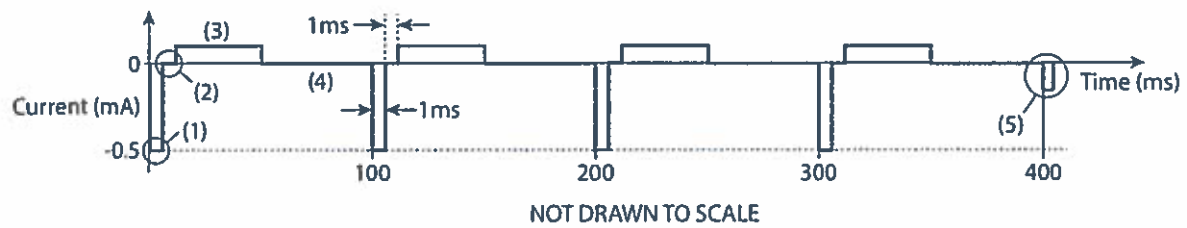

Figure 2.1
An asymmetric biphasic current waveform that is generated by an electrical stimulation circuit is shown in Figure 2.1.
- Name titles for phases (1), (2), (3), (4), and (5) as annotated in Figure 2.1, and briefly describe the purpose of each. [10]
- Given a $5\text{k}\Omega$ electrode impedance, estimate the voltage headroom that is needed to generate the stimulus waveform shown in Figure 2.1. State any assumptions made. [2]
- If four stimulation channels are to be interleaved such that each channel delivers a stimulus at 10Hz, calculate the durations of phases (3) and (4), in addition to the amplitude of phase (3). [4]
- Briefly describe how the magnitude of phase (5) is determined. [2]